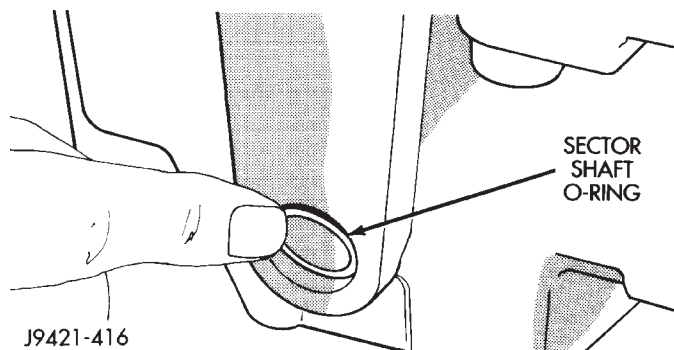
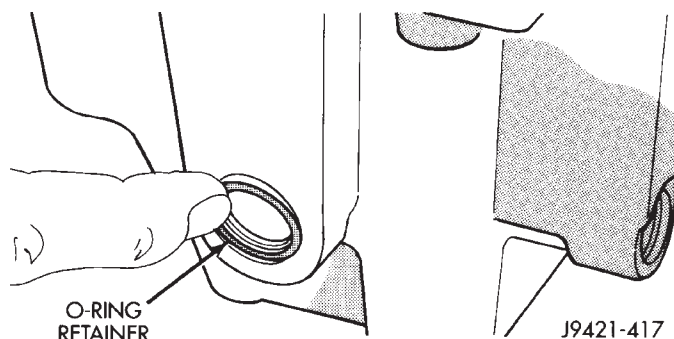

Fig. 49 Sector Shaft O-Ring Installation
Fig. 50 Sector Shaft O-Ring Retainer Installation
(4) Install new sector shaft O-ring (Fig. 49), and O-ring retainer (Fig. 50) in sector shaft bore.